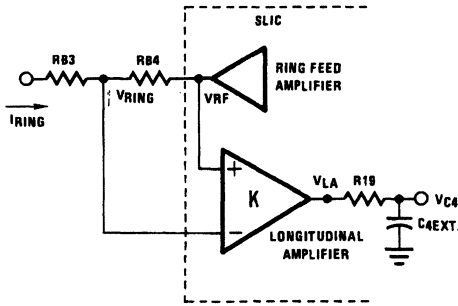

FIGURE 2.
For Case 1, refer to Figures 2 and 3. In this situation the desired result is obtained, namely, that ring sync occurs during the negative peak of V_{C4} . This helps achieve ring trip faster because, once a subscriber goes off-hook, a negative DC shift is observed at V_{C4} . This shift approaches a comparator threshold in the ring trip detection circuit. If the negative peak of V_{C4} (AC) precedes the negative going DC shift at V_{C4} , one can achieve ring trip in a shorter time frame. Also this configuration allows ring trip to occur for long lines, in the order of 3000Ω. At these line lengths, the DC negative shift will never reach the threshold because there is not enough DC current through the sense resistor, RB4. However, the negative peak of V_{C4} (AC) will cross the ring trip detector comparator threshold and ring trip will occur.